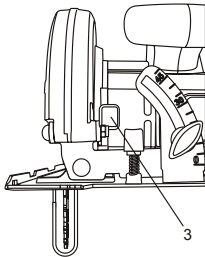

Fig. 2
Pressing on the blade locking lever (3) slowly rotate the blade until the locking lever engages the spindle (Fig. 2).